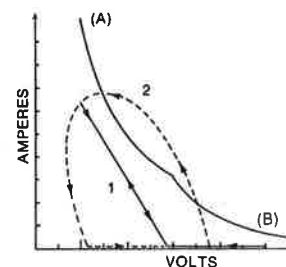

Fig. 4-9. Safe Operating Area.
- 4.9 SOA Protection Circuits.** The output devices must be monitored for safe operating voltages and currents. When an output transistor is driving a resistive load, the current and collector-emitter voltage vary in a predictable, inverse way, so that the dissipation of the transistor remains within the boundary defined by A-B in Fig. 4-9. On the non-conducting half cycle, the voltage across the transistor is high, but the current is zero, as shown by line 1 in the Figure. But with a reactive load—and especially with the complicated reactances many loudspeakers present—high out-of-phase currents may be called for at times when the collector-emitter voltage is also high (line 2). These combinations of current and voltage may lie well outside the transistor's safe operating area, even at less than